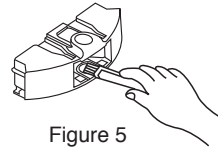

Figure 5
4. Remove the air outlet unit and then clean the air inlet/outlet with the dust brush (Refer Fig 5).